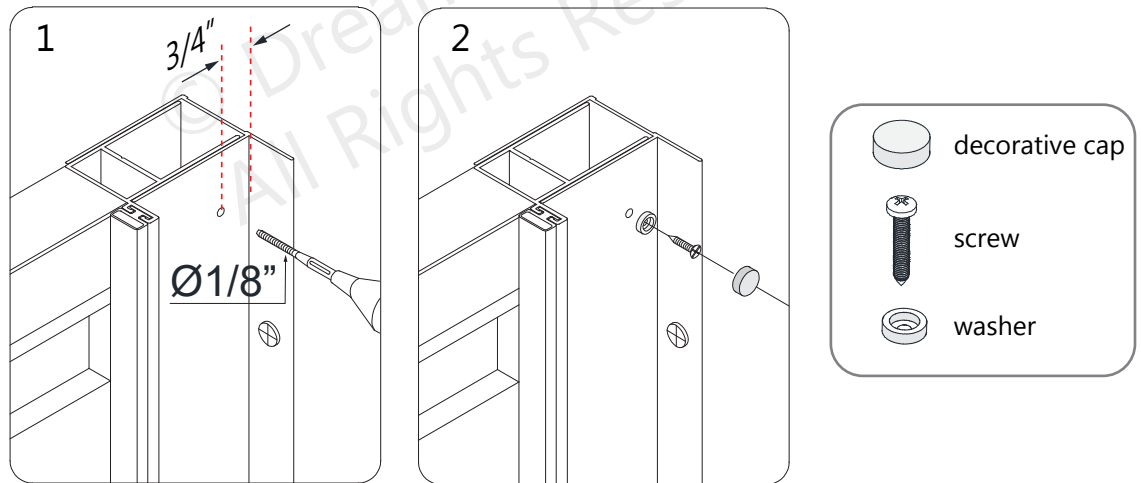

Fig 13
13. Perform any final adjustments with the **Wall Profiles (#01)** and make certain that the bottom rail is tight to the threshold. Drill $\text{Ø}1/8''$ holes into the **Glass Profiles (#02)** through the **Wall Profiles (#01)**, approximately $3/4''$ from the wall. Drill one hole approximately $2''$ - $4''$ from the top and bottom of each wall profile. Secure the **Wall Profiles (#01)** and the **Glass Profiles (#02)** together with the **ST4.2×10 Pan Head Screw (#07)** and the raised white **washers (#10)** and attach the **Decorative Covers (#10)**. (Fig 13)